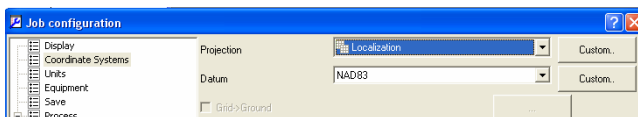

Figure 6-39. Selecting Localization Projection
2. Import a local coordinate file into the job file. Before importing this file, be sure that the Ground coordinate system is specified for the job. To do this, click **Job ► Job Configuration** (Figure 6-39), select *Coordinate Systems* and select *Localization* in the *Projection* field: